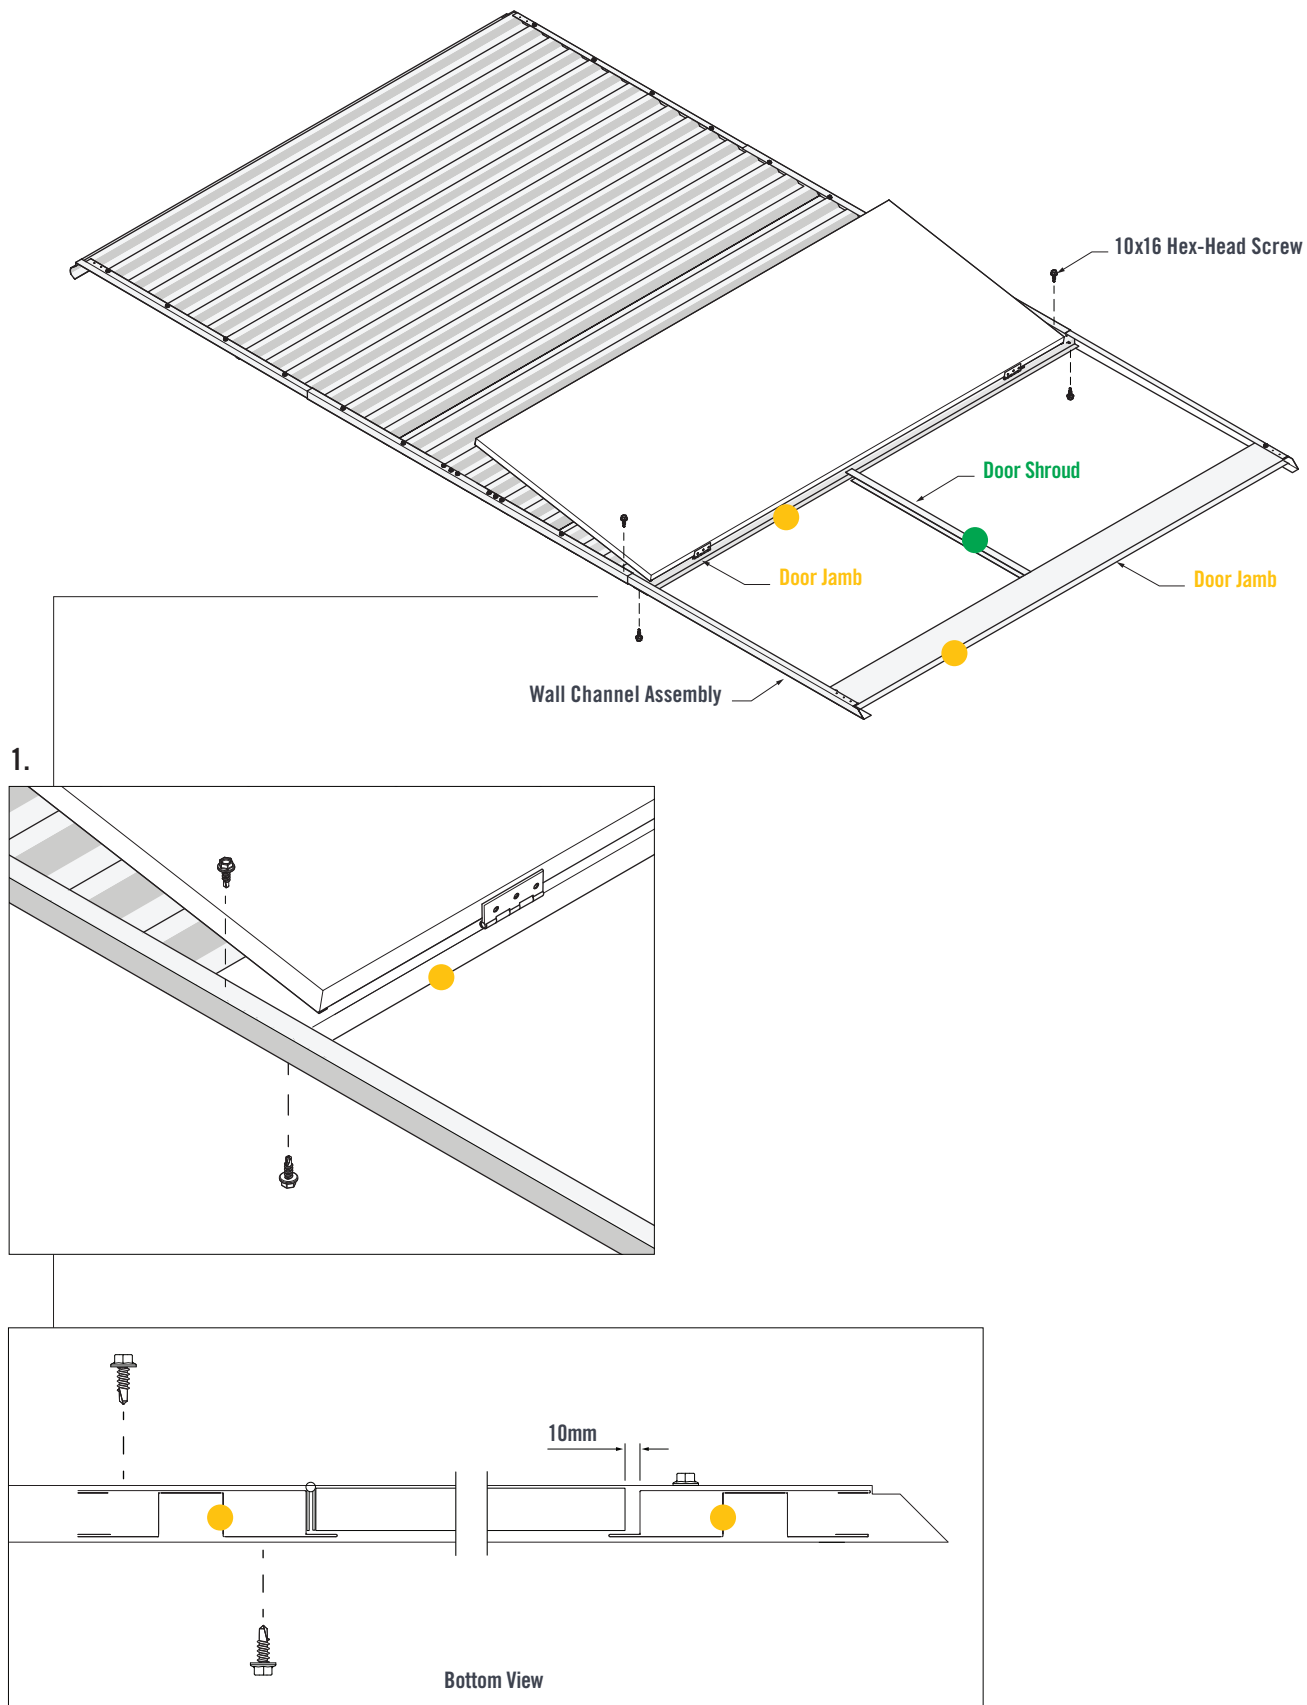

FIGURE 5.3
With the Door open, fit the **Door Shroud** in-between the **Door Jambs**. Use the **Door Shroud** as a guide to set the correct spacing between the **Door Jambs** (Figure 5.3).
1. Fasten two 10x16 self-drilling screws through both **Wall Channels** and into the **Door Jamb**. Close the Door and ensure an approximate 10mm gap between the edge of the Door and end **Door Jamb** (Figure 5.3).